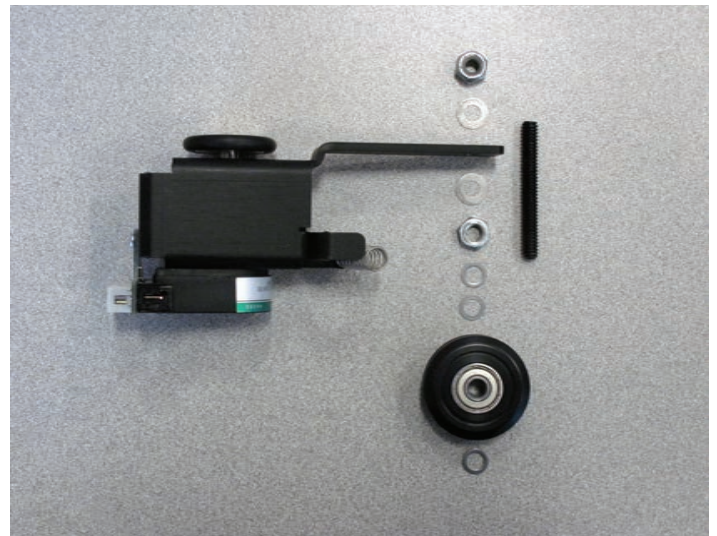

Figure 6
**Step 4:** Place the parts on the 2" screw as follows: thick washer against the machine base plate, Precision-Glide Wheel, two thin washers (**Figures 6 & 7**). Then add a thin jam nut (**Figure 8**). Be sure to place the ring side of the wheel towards the machine.